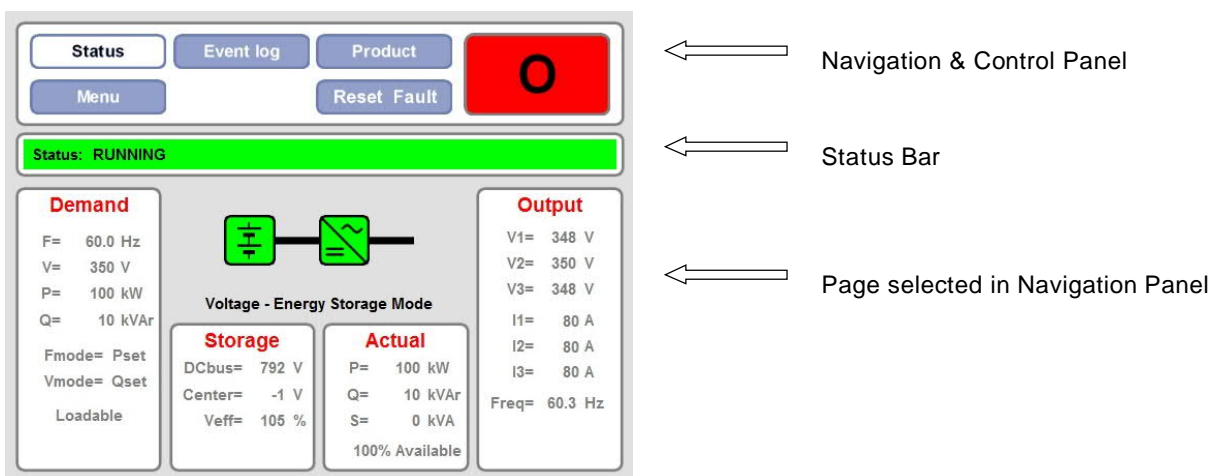

Figure 5-1: GDM display showing Navigation & Control Panel, Status Bar and selected Page
The GDM interface consists of several pages that can be selected by the user. Each page has the Navigation & Control Panel and the Status Bar at the top as shown in Figure 5-1, which are displayed at all times. The Navigation & Control Panel consists of buttons allowing page selection and a Start (I) / Stop (O) / Reset button allowing local control of the product. The Status Bar displays the current system status and any warning or fault condition that may be present.